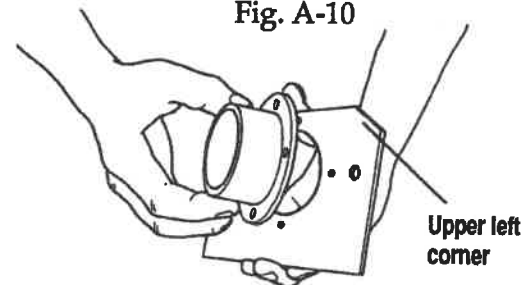

Fig. A-11
22. The dust collector plate (35) has one corner removed. This is the upper left corner (as you are standing behind the Joint-Matic). Place the flange (36) over the big hole on the back of the dust collector plate (35), and align the four holes in the flange with the four holes around the dust collector plate's chute hole. See Fig. A-11.